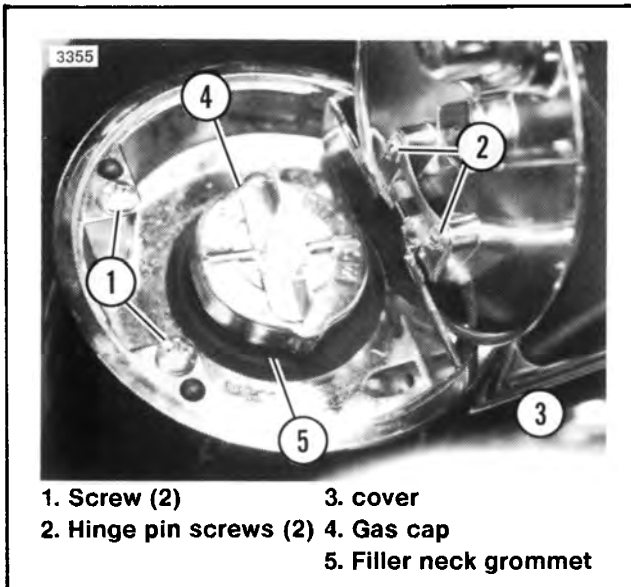

Figure 8-56. Console Front Mounting Fasteners
1. See Figure 8-56. Remove the front mounting screws (1) and the hinge pin screws (2).
7. See Figure 8-56. Remove gas cap (4). See Figure 8-49. Remove screw (3) and gently lift console upward until grommet (5, Figure 8-56) at filler neck is free.